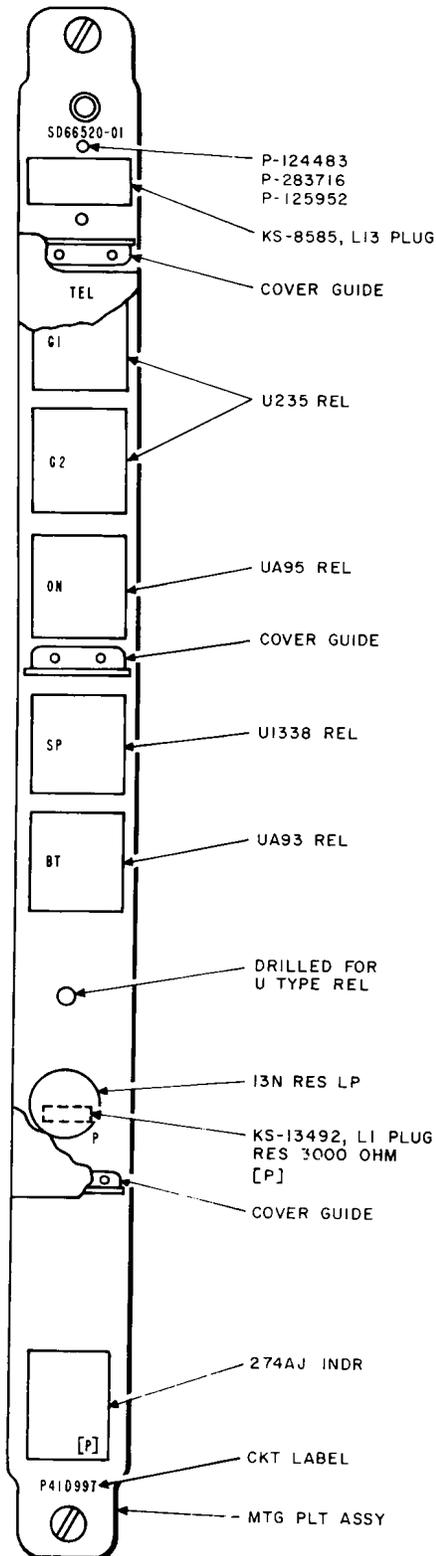

Fig. 5—Rear View-Attendant Telephone Unit
3.08 To modify position 2, J59013D-3, List 2 must be ordered. This order will supply two relays (G1 and G2) and a KS-8585, List 13 plug (Fig. 5).
3.11 Mount the KS-8585, List 13 plug using the P-124483 screws, the P-283716 lockwashers, and the P-125952 nuts on the telephone unit of position 2, per Fig. 5. The U235 relays designated G1 and G2 mount immediately below the KS-8585, List 13 plug.